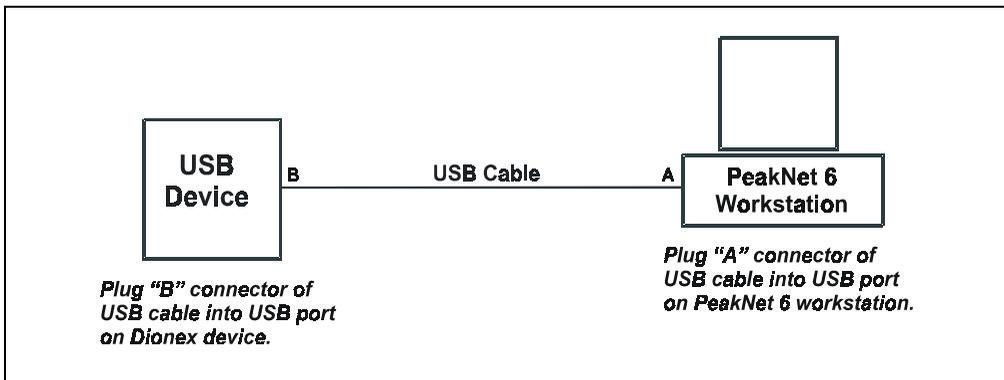

Figure 2-1. Example Connections: One USB Device Connected to the PC
1. Plug the “A” connector of a USB A-B cable into a USB port on the PeakNet 6 workstation. Plug the “B” connector of the cable into the USB port on the Dionex device (see Figure 2-1).